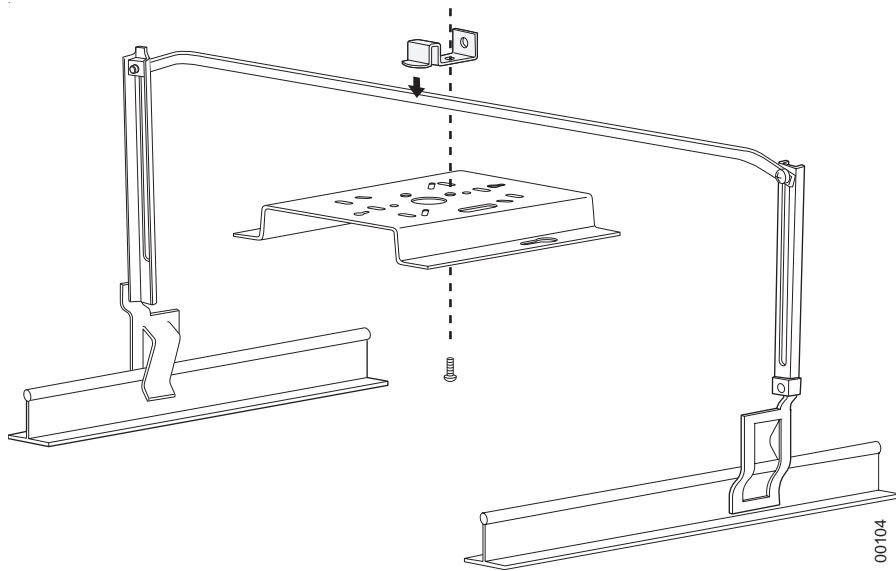

Figure 25: Attaching the Mounting Bracket to the Box Hanger
4. Attach the U-joint of the clip to the T-bar and snap in place (see Figure 25).
5. Pass the long end clip through the large center hole to the underside of the the mounting bracket clip and then attach the bracket to the clip using the supplied screw (see Figure 25 for orientation).